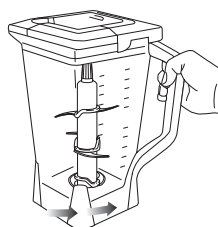

Fig. 9
- 13 Turn the pitcher counter clockwise to remove and then lift off the base. (Fig. 9)